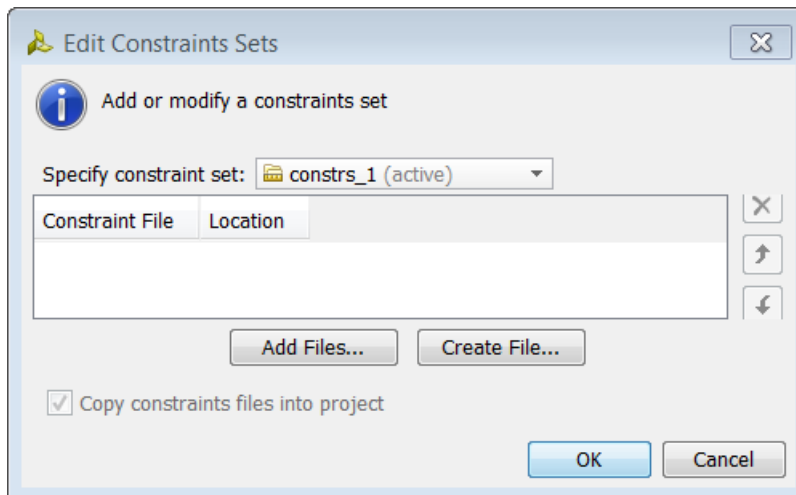

Figure 126: Edit Constraints Set Dialog Box
4. Click **Create File** (Figure 126).